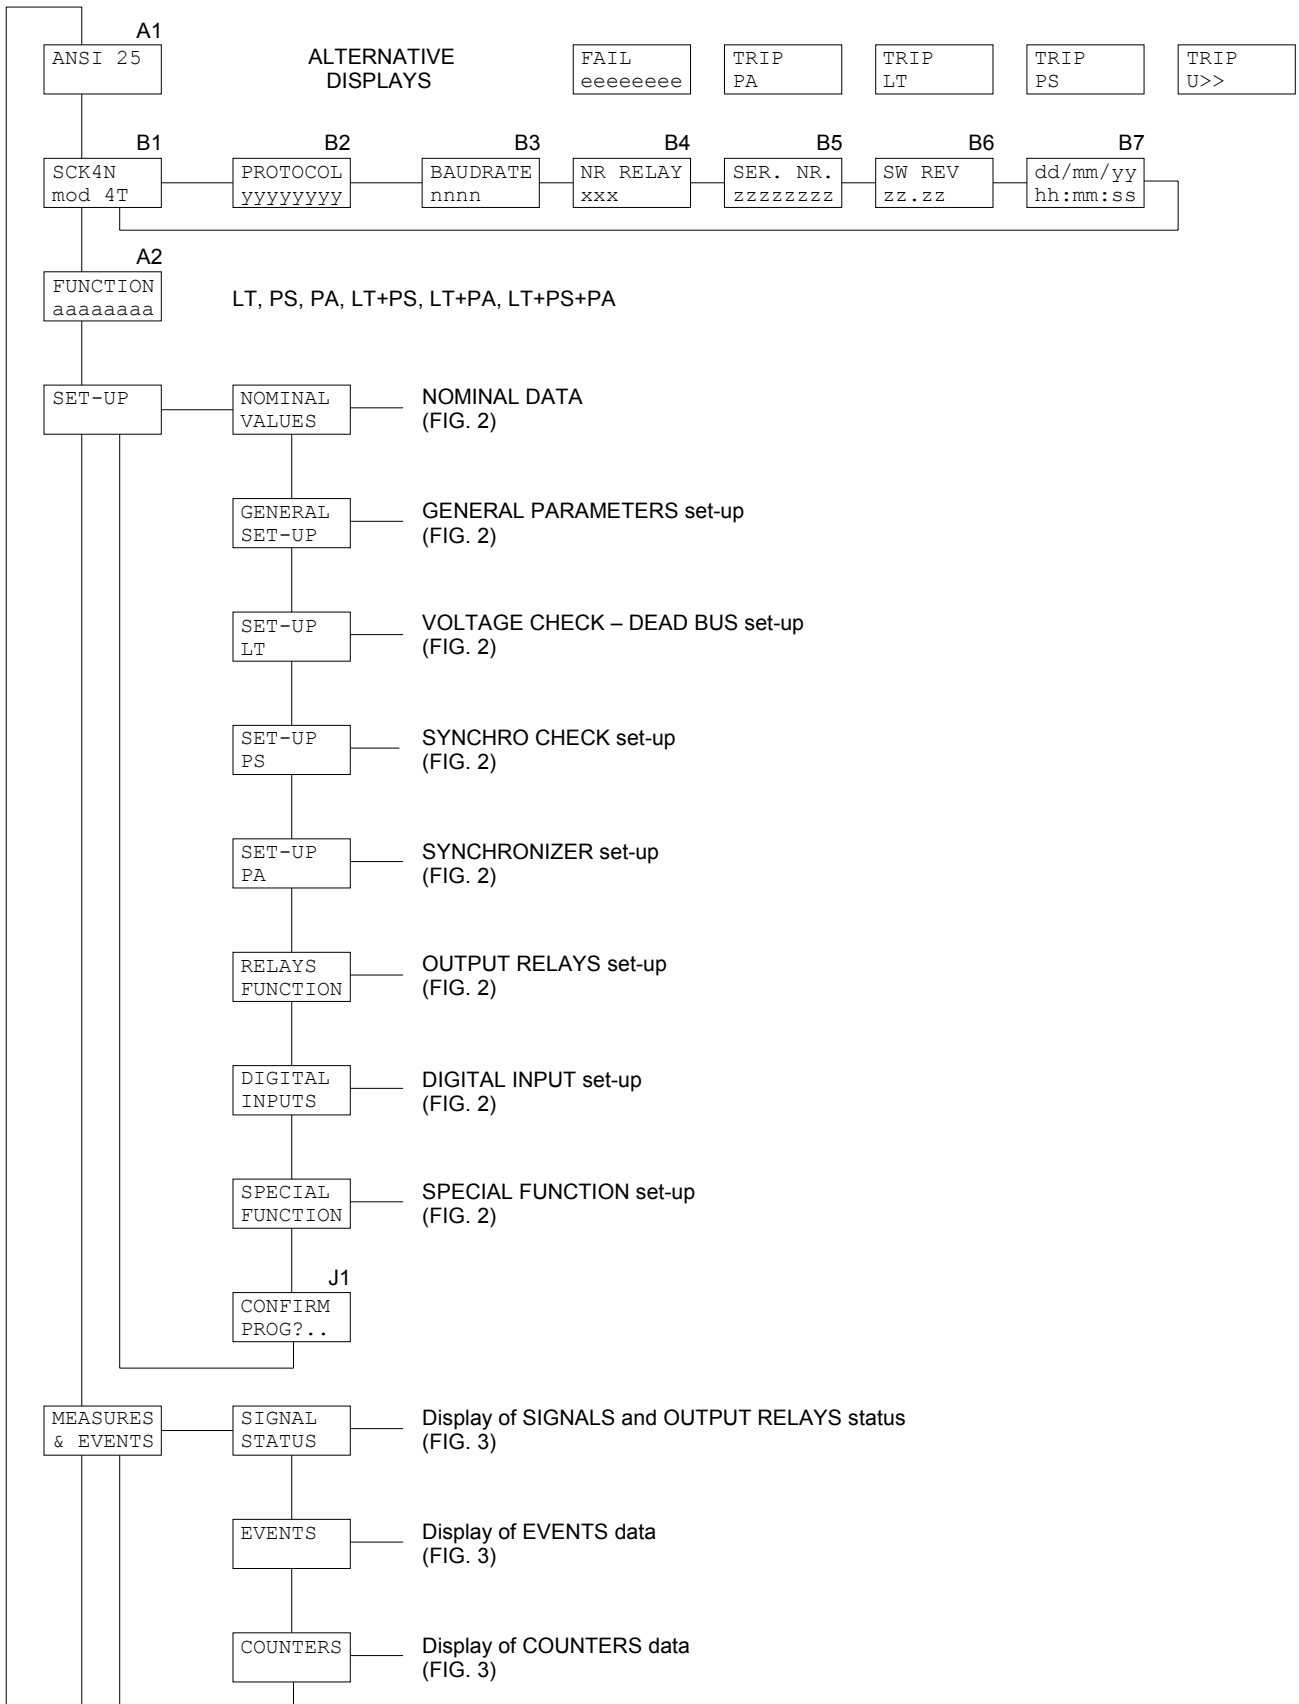

Figure 1
The programmable parameters are showed in Figures 1, 2 and 3 at the following references:
- 5) **CONFIRM** the new protection relay set-up at the visualization CONFIRM PROG? (Fig. 1, ref. J1) within 5 minutes depressing the push-buttons [ENTER],  up to visualize **YES** and [ENTER] again to confirm.
- display on STANDARD MODE (Fig. 1, ref. A1 - par. 5.1)
The contents and the structure of the displayed messages are shown in figures 1, 2 and 3; the references A1, B1, B2 etc. identify specific displayed messages in the figures.
5.3 Operating modes (fig. 1)
5.4 Address and time (fig. 1)
5.5 Nominal values set-up (fig. 1)